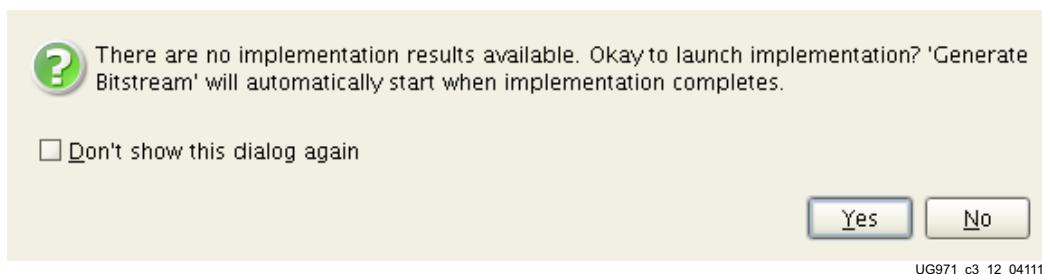

Figure 3-12: Generate Bitstream
11. In the Project Manager window, under Program and Debug, click **Generate Bitstream**. Confirm the launching of implementation (Figure 3-12).